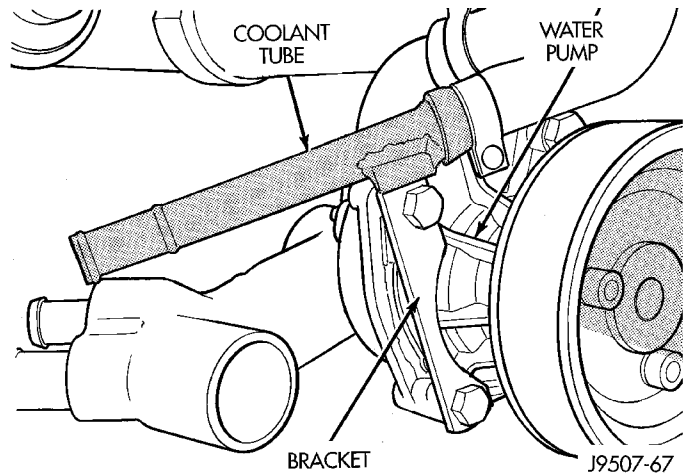

Fig. 24 Coolant Tube at Water Pump
(9) A metal coolant tube (used to connect rubber coolant hoses), and its mounting bracket are attached to the front of the water pump (Fig. 24). A rubber hose connects this tube to the engine. Disconnect the hose clamp and rubber hose at the back of the thermostat. Position the hose to the side.